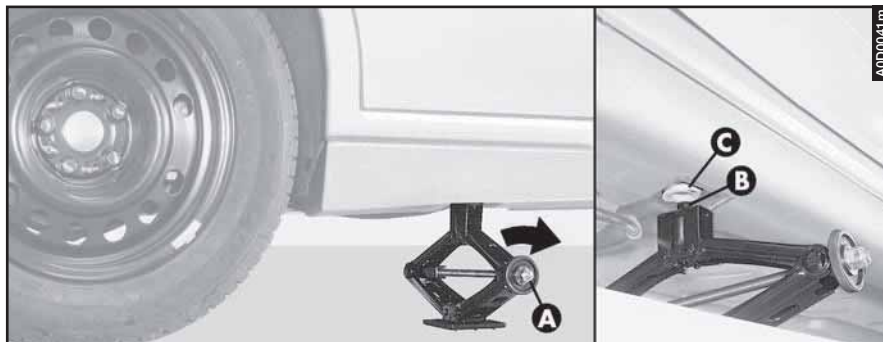

fig. 7
– Turn the knob (**A-fig. 7**) of the jack to extend it until the pin (**B**), on the on the upper part of the jack inserts correctly in the seat on the body (**C**).
— Turn the knob (**A-fig. 7**) of the jack to extend it until the pin (**B**), on the on the upper part of the jack inserts correctly in the seat on the body (**C**).